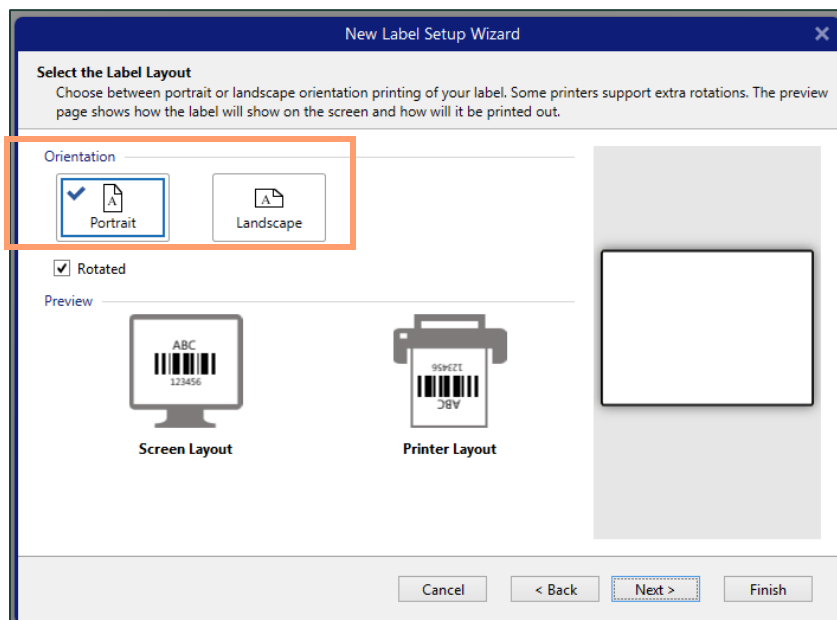

Figure 11: New Label Set Up Wizard with Orientation selected.
- Click Next, then select the label layout (Portrait or Landscape) – see figure 11.